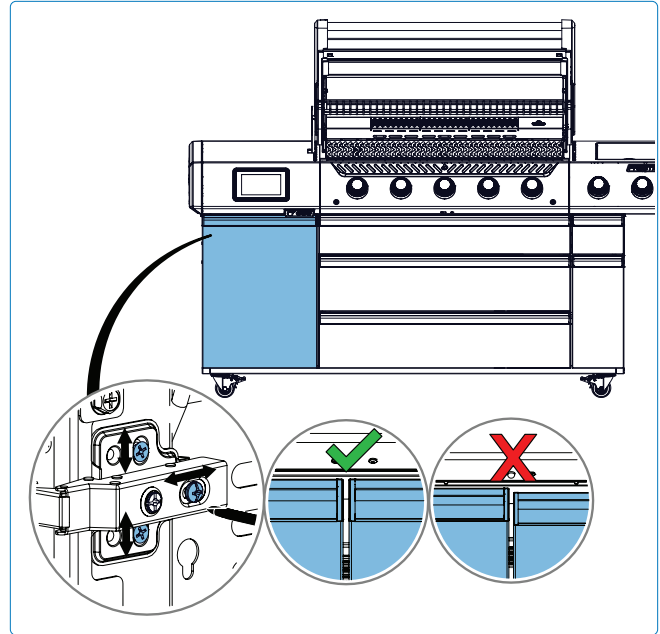

Fig. 18
1. Locate the adjustment bracket at the top of the door (**Fig. 18**).
4. Adjust the hinge screws to align the cabinet doors so they are level with each other (**Fig.18**).